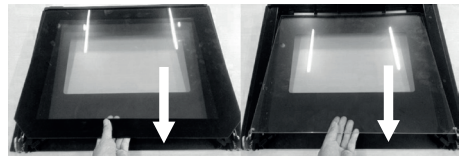

Fig. 2
4. When removing, lift the glass up and then pull it towards the oven as shown in Fig. 2. Do not lift the glass too high, some of the plastic parts of the upper cover may break.